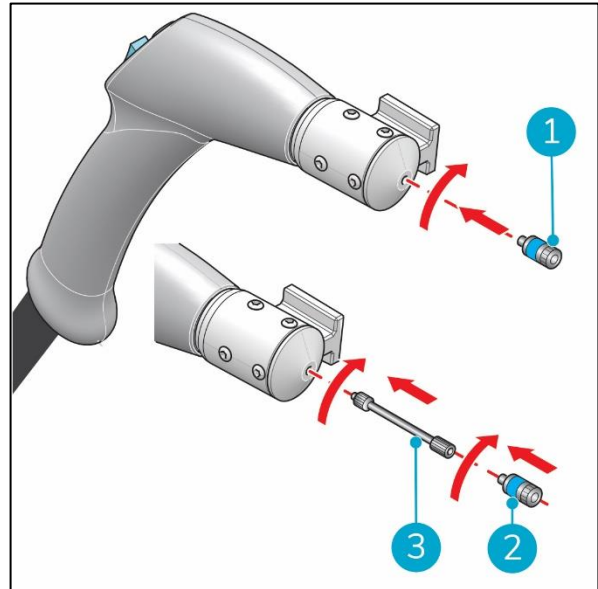

Figure 10
1. Turn the spray nozzle clockwise to attach it to the spray gun (Figure 10, pos 1).
1. Turn the extension tube clockwise to attach it to the spray gun (Figure 10, pos 3).
2. Turn the spray nozzle clockwise (Figure 10, pos 2) to attach it to the extension tube.